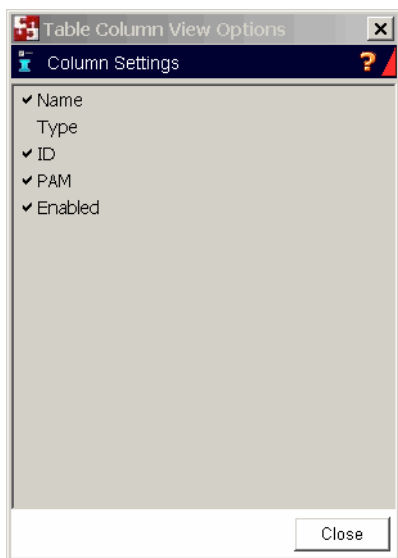

Figure 6: Selecting Columns to Display
2. Select the columns to view. A check is displayed next to columns that are selected for display, as shown in Figure 6.